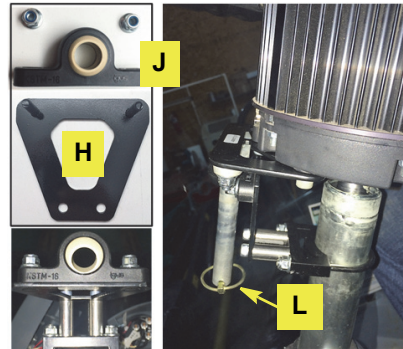

Figure 5a: Installing the pillow block and steering wheel with anti-rotation 'T' bar
- f. Using the nuts provided, loosely attach pillow block **J** to the studs on bracket **H** (Figure 5a, left images).
- a. Apply a small amount of an anti-seize compound (not supplied) to the inside of shaft adapter **B** then, aligning (i) the adapter's keyway with the key in the steering shaft, and (ii) the shaft of the 'T' bar with the pillow block bushing, slide the steering wheel assembly onto the shaft. Insert and lock linchpin **L** (Figure 5a, right image - note that the assembly is shown without the column covers refitted).